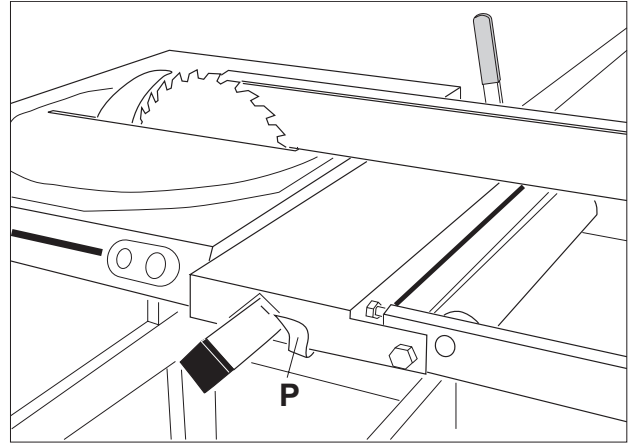

Fig. 7
- Rotate the turntable to 90°, and pull the fence in toward the saw blade. Adjust the indicator **P** so that it points to 0 on the guide rail (Fig. 7).
Free the elevation arm by loosening the elevation locking clamp (Fig. 7), whereupon the blade may now be raised and lowered. The saw blade may be locked into position at any height by retightening the locking clamp.
- Raise saw blade to slightly higher than thickness of workpiece and lock as described in section 4.2 (Fig. 7).